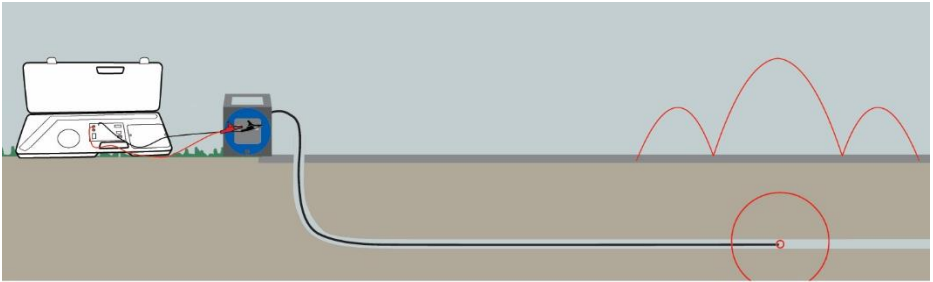

Figure 3
2. Connect the red alligator clip of your wire tracker to the red knob on the Pro65™, and connect the black alligator clip to the other knob next to the red one. See figure 3 below.